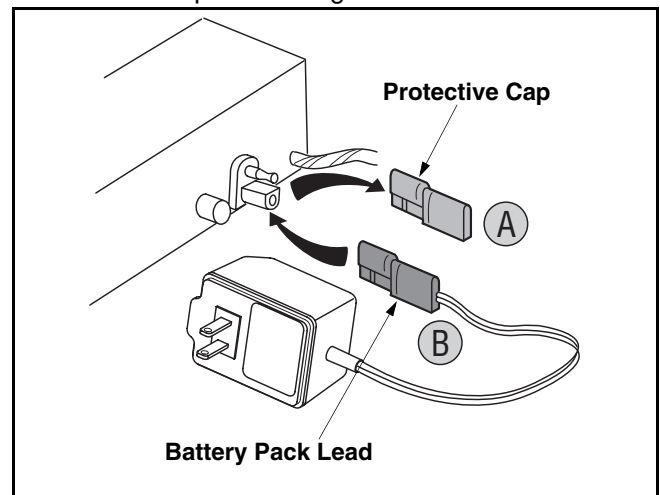

Figure 24
- Plug the battery charger into the battery pack at the red service port. See Figure 24.